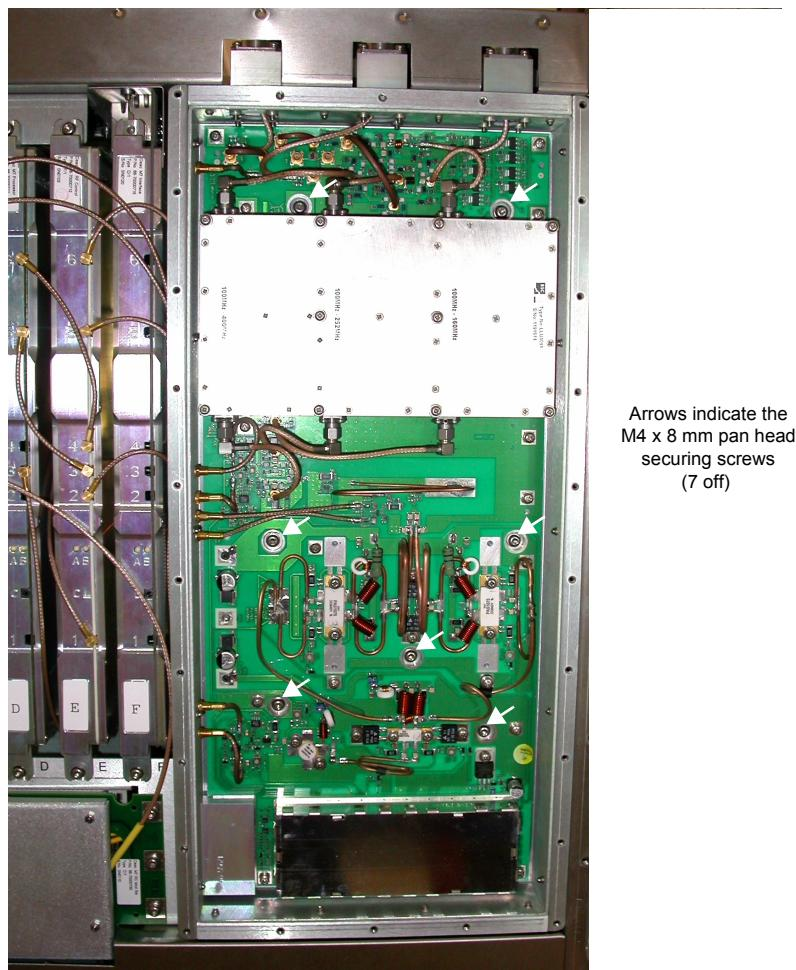

Fig 5-19 RF PA Module Securing Screws
- (4) Identify the seven M4 x 8mm pan head screws (Fig 5-19) that secure the module to the radio's chassis. Using a Torx T15 screwdriver, remove and retain the seven screws (part number 36T63340080) and associated wavy washers.